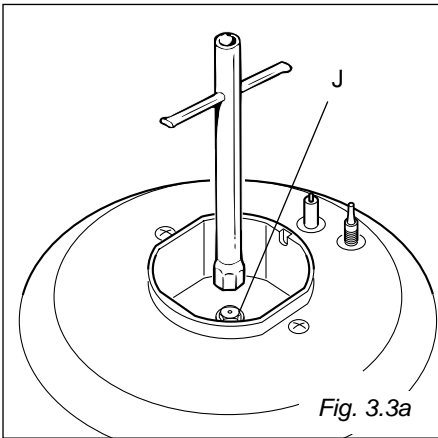

Fig. 3.3a
- Using a wrench, substitute the nozzle injectors “J” (fig. 3.3a, 3.3b) with those most suitable for the kind of gas for which it is to be used.